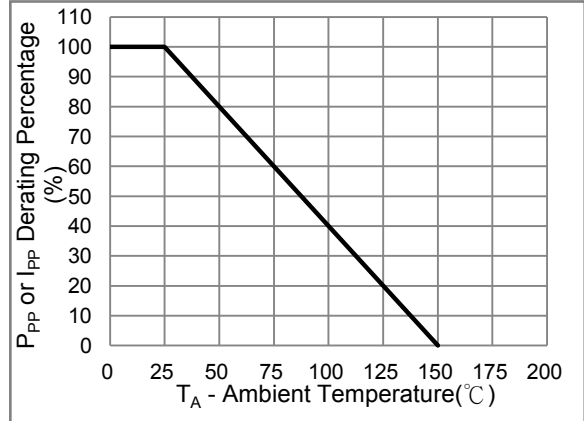
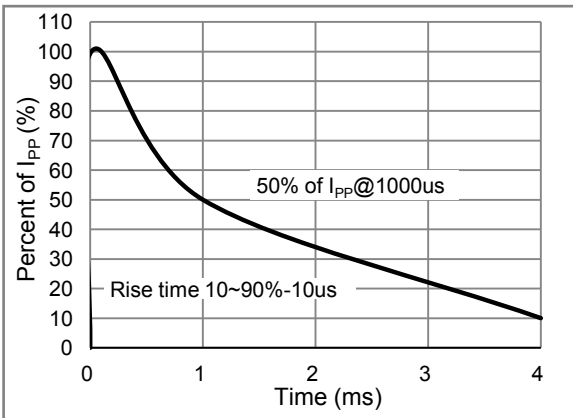

Fig.2 Derating Curve
Fig.3 10/1000 μs Pulse Waveform
1. Non-repetitive current pulse, per Fig.3 and derated above $T_A = 25^\circ C$ per Fig. 2.